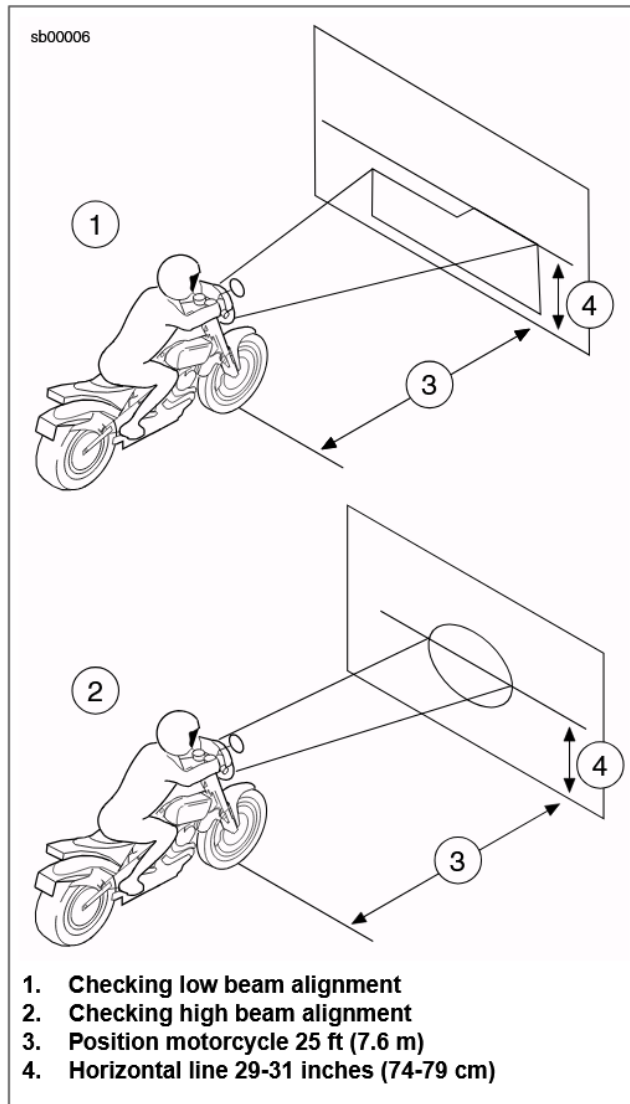

Figure 8. Headlight Alignment
1. See Figure 8. In a location with low light, draw a horizontal line on a screen or wall 29-31 inches (74-79 cm) from the floor.
- c. Check that the correct pattern of light is a double rectangular pattern and is aligned with the horizontal line as shown in Figure 8.
- b. Check that the correct pattern of light is a circular pattern and is centered on the horizontal line as shown in Figure 8.